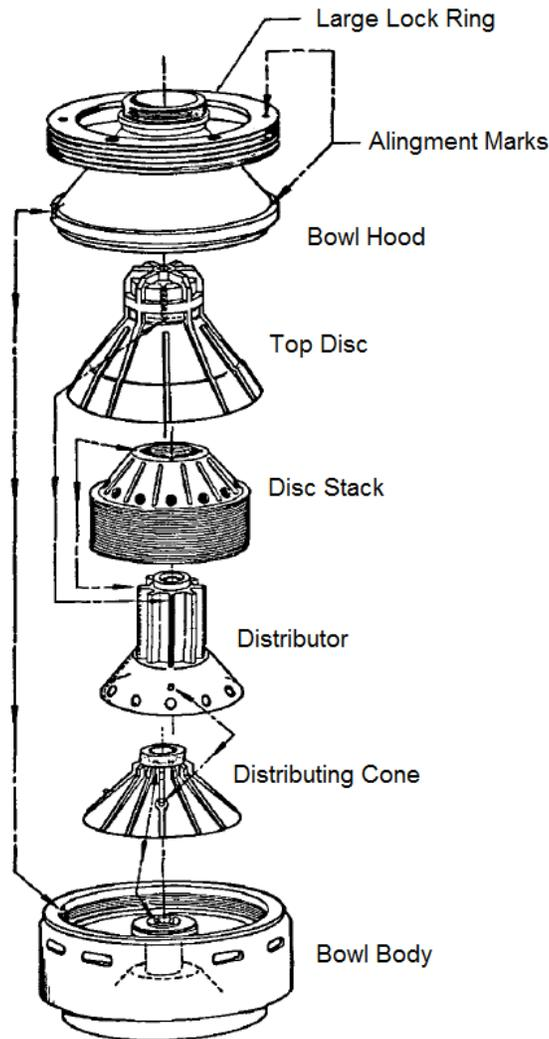

Figure 551-88L-2043
(1) First, they provide sure and adequate points at which to grip the part or attach a hoist.
(2) Second, they insure that lifting force is applied evenly and in the correct direction, eliminating, or at least reducing wear on closely fitting parts which could otherwise become cocked, or jammed, causing damage to themselves and other components.
(3) When lifting tools are provided with a centrifuge be sure to use them, and use them correctly.
d. The bowl components of all centrifuges are assembled in a certain relative order and position. Locating marks, pins and lugs are furnished on many centrifuge parts to ensure proper seating and alignment during assembly. These must be legible, and/or intact to ensure proper positioning and assembly, (refer to Figure 551-88L-2043\_01).